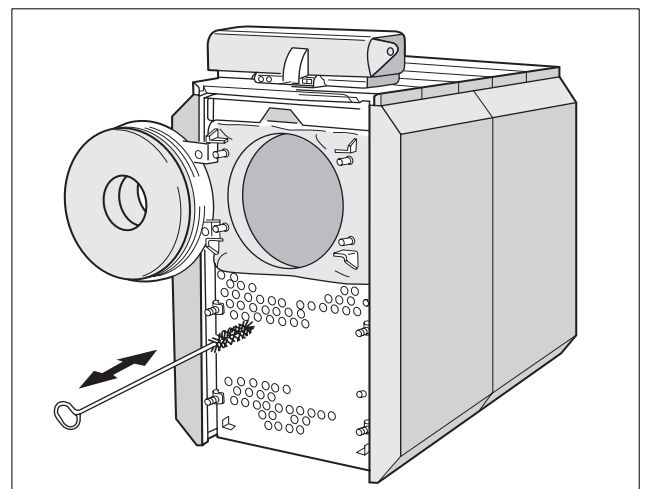

Fig. 27 Brushing of fire tubes
- Brush out secondary flue passages (Fig. 27).